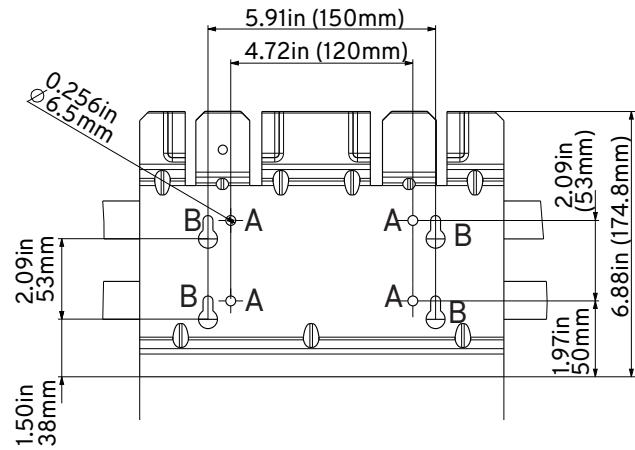

Figure 9: Dimension drawing of mounting plate
1. Mount the mounting plate to the wall with at least 4 screws and anchors (\varnothing 6mm). With 4 screws use 4 holes A or 4 holes B (see Figure 9). You can use the mounting plate as a template for marking the positions of the boreholes. Avoid installation on a non-load bearing wall.
This unit is designed to be wall-mounted. Please ensure the installation is perpendicular to the floor and the door can be opened easily. Do not install the device on a slanting wall. The dimensions of the mounting plate are shown in the figure 9.
1. Using the mounting plate as a template, mark four screw holes onto the wall. Use the four holes that are indicated for this purpose in the figure 9. Make sure the holes are in the center of each stud before marking the drill location.
5. With at least one person on each side of the GM Energy Home Hub, lift it up and place it carefully onto the mounting plate. Install two #12-24 Anchors as shown in the figure 9 to secure the device.